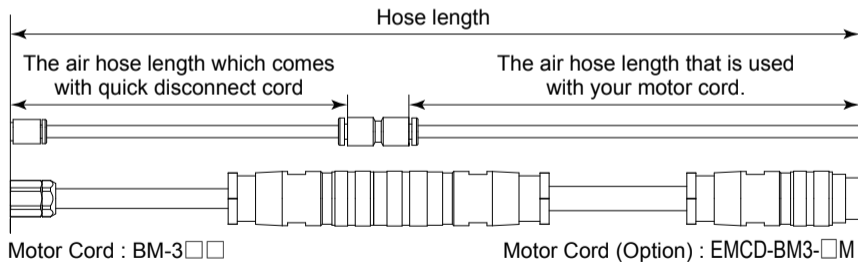

Fig. 28
(1) One Motor Spindle is connected to the Control Unit.	Air Pressure (MPa)	0.2		0.25		0.3
(2) Two Motor Spindles are connected to the Control Unit.		0.4		0.5
*Note 1 : "Hose Length" indicates total hose length consisting of the Quick Disconnect Hose and the Motor Cord Hose. See Fig.28 to see how to calculate "Hose Length".